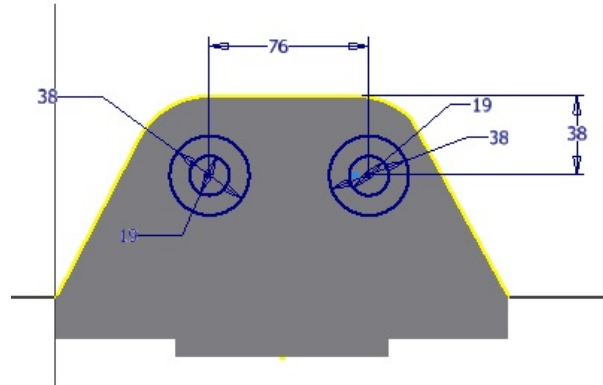

Figure 6-109 Sketches for the cylindrical features
1. Define a new sketch plane on the front face of the second feature and draw the sketches for both the cylindrical features, as shown in Figure 6-109.